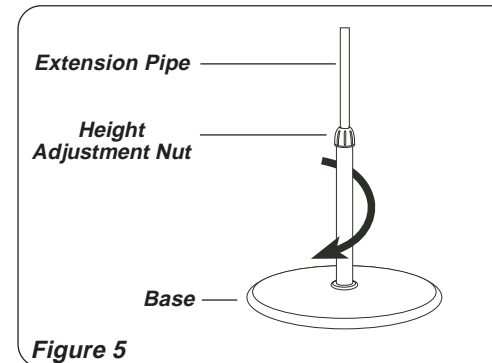

Figure 5
1. With a twisting motion, insert the end of the large diameter pipe into hole in **Base**. (**Figure 5**) Turning pipe while pushing will assure pipe is fully seated in **Base**.